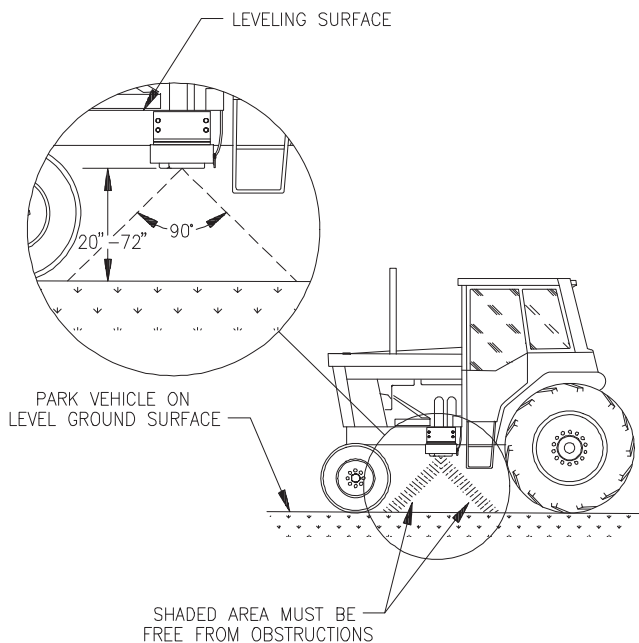

FIGURE 1
MOUNTING SELF-LUBRICATED SEAL ASSEMBLY (See Fig. 1)
- a) The line of sight from the lens to the ground must not be obstructed by structures or tires. Obstructions must not come closer than 20 inches to the bottom of the radar. See Figures 1 and 2.